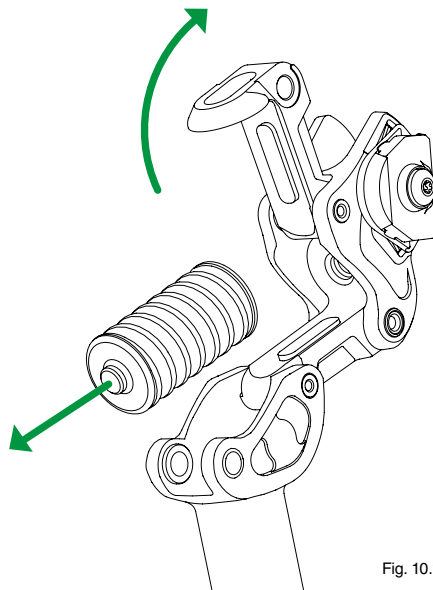

Fig. 10.1.3
3. Lift up the rear spring arm upwards in the small pivot bearing until the spring element is released from the adjustment in the spring plate. Now you can remove the spring element by hand. (see Fig. 10.1.3).